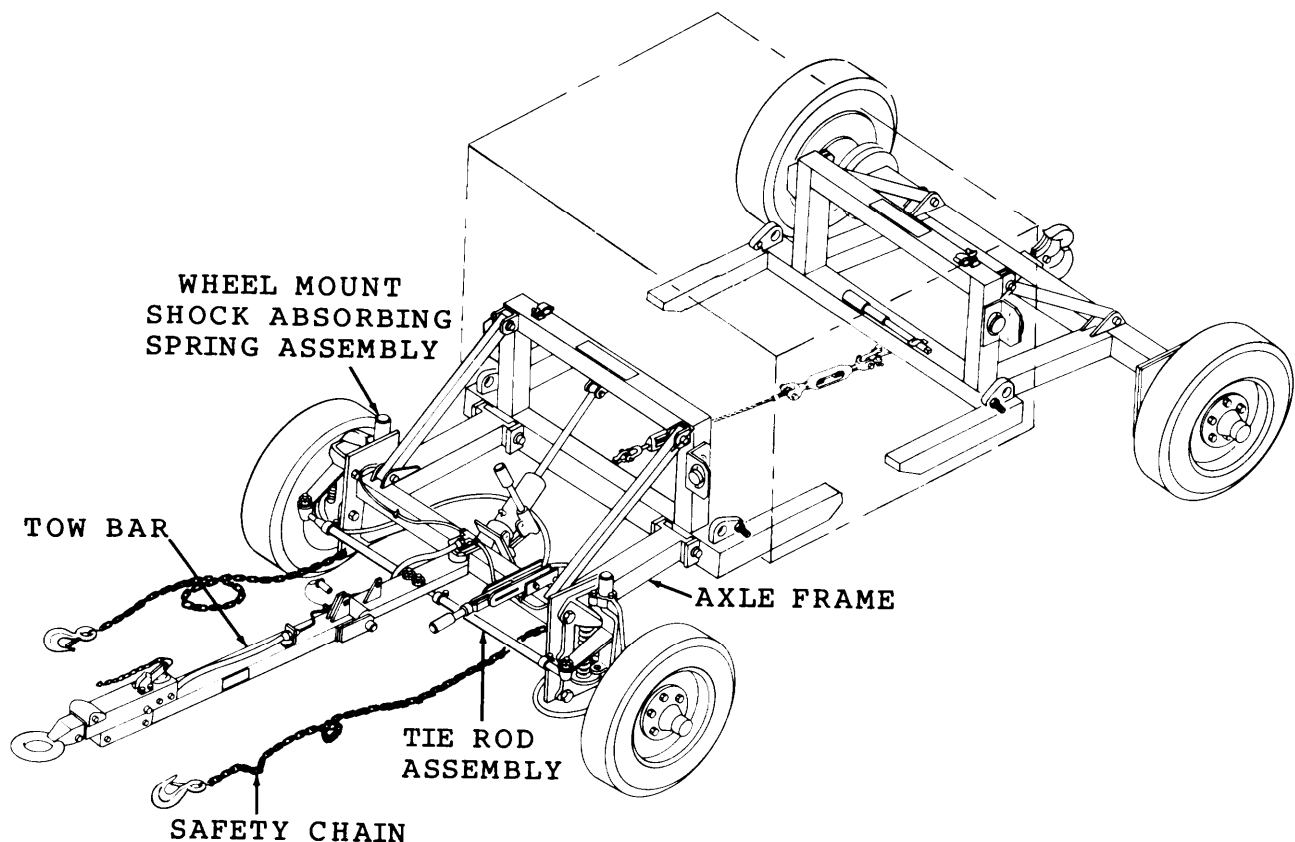

Figure 1-5. Front Axle Group Components.
b. *Front Axle Group.* The front axle group (Refer to Figure 1-5) includes the following parts:
- (1) Axle Frame. Wheel mount shock-absorbing assemblies, brake system and towbar mount to axle frame.
- (2) Wheel Mount Shock-Absorbing Spring Assemblies. Wheels are mounted on these assemblies. Each assembly contains six springs that absorb road shock; a kingpin as the steering pivot; and hydraulic/mechmicd brakes.
- (3) Tie Rod Assemblies. Tie rods connect each wheel mount shock absorbing assembly to center steering arm.
- (4) Towbar. Towbar connects to center steering arm with hinge pin. Brake master cylinder mounts on towbar.
- (5) Safety Chains. Safety chains are connected between suspension frame and towbar. They also limit turning radius.